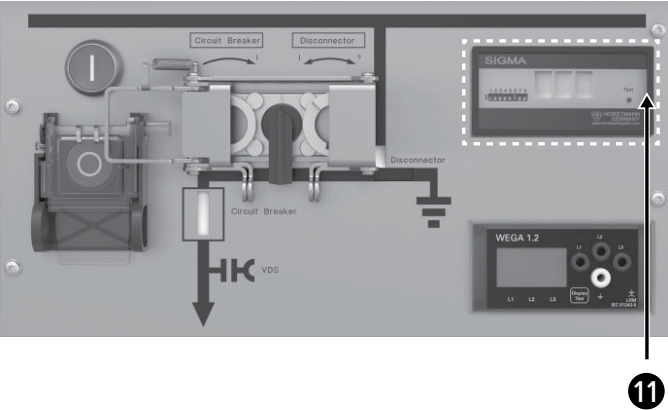

Figure 4-27: Overcurrent indicator
The overcurrent indicator (11), see figure 4-27 is activated by an overcurrent.